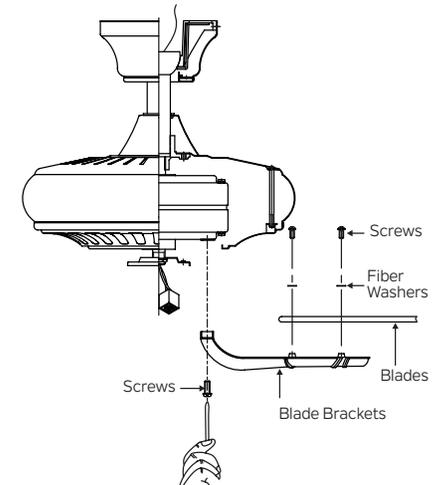

Fig. 15
Step 2. Slide the canopy up to the mounting bracket and place one of the key hole slots over the mounting screw on the mounting bracket. Rotate the canopy until the screw head locks in place at the narrow section of the key hole. See figure 15.
Step 1. Attach a blade to a blade bracket using the screws and fiber washers provided. (Fig. 15)
Step 2. Attach each blade assembly to the motor using the “Pre-Installed” mounting screws in the blade bracket. (Fig 15)